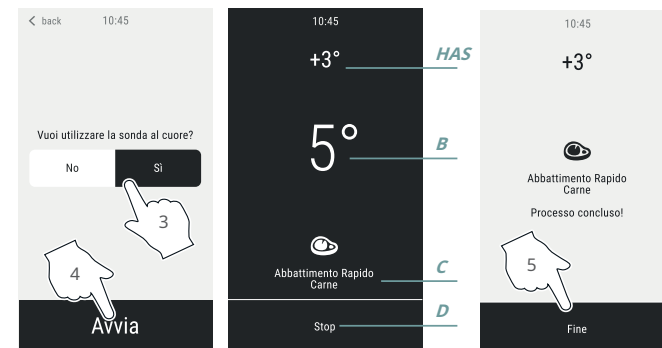

Fig. 16.
- 2 If you choose to use an automatic cycle, tap the category icon corresponding to the product to be processed (for example, Meat). Next, a screen asks if the chosen cycle should be set with a cardiac probe Fig. 16. or by setting the temperature of the food (room temperature or hot to be processed and its quantity).